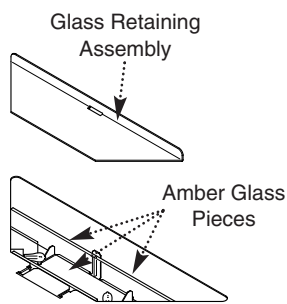

Fig. 62
4. Remove the glass retaining assembly (Fig. 62). At this point the bulb/s may be changed (see Section 10.7).